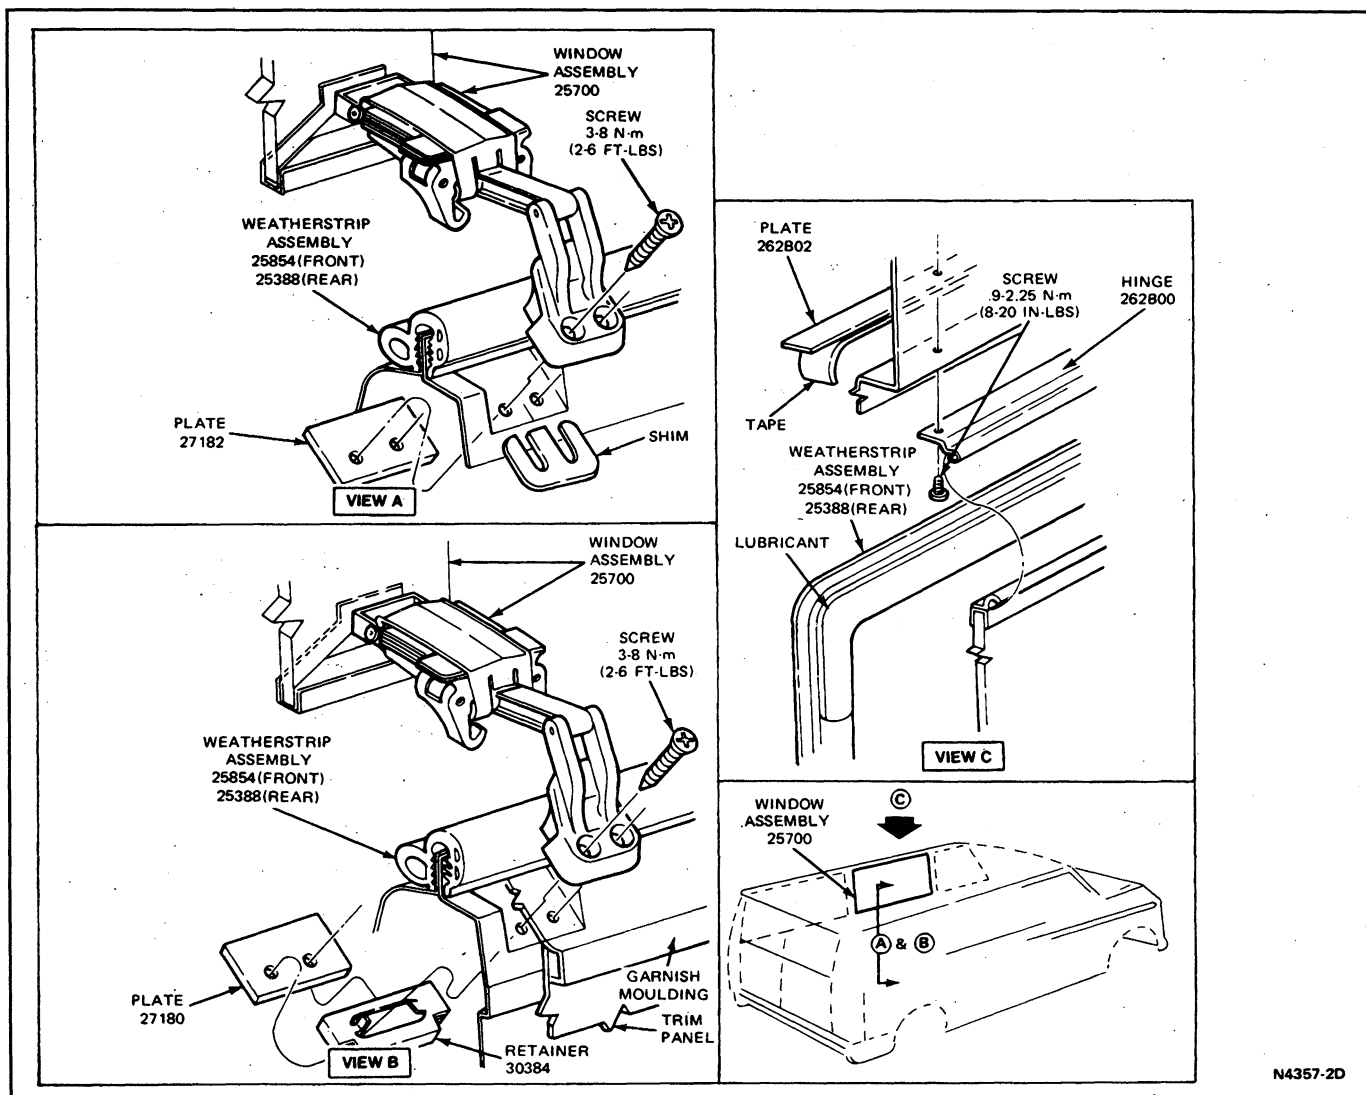

FIG. 1 Body Side Pivot Windows—E-150—E-350, Club Wagon
3. Position the latch plate to the door or side inner panel. Position the latch anchor inside the door and install the attaching screws. The latch anchor is attached to the body side inner panel when equipped with garnish mouldings (Figs. 1 and 2). Tighten the screws to 3-8 N·m (2-6 ft-lb).
3. Install the weatherstrip onto the window opening flange as shown in Figs. 1 and 2.